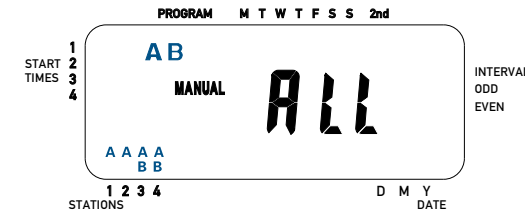

Figure 9: Manually running both programs A and B
- Turn the rotary dial to **RUN**, then press the **MANUAL** key. The display will show “AB” and “ALL” blinking. [See Figure 9] This indicates all stations in the “A” and “B” programs will water for their assigned durations in sequence.